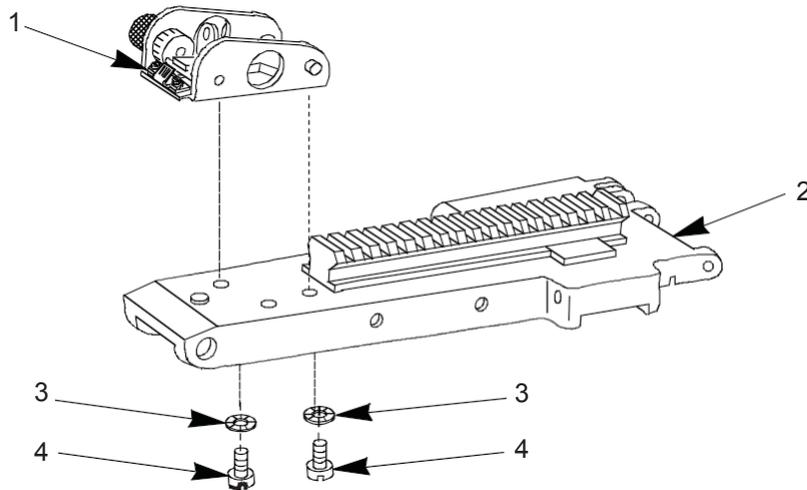
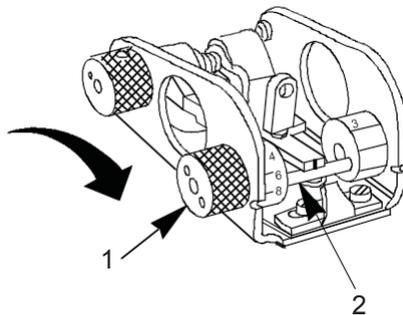

Figure 15. Rear Sight Assembly Cover Assembly.
Figure 16. Elevation Knob Assembly.
22. Visually inspect two retaining pins (Figure 15, Item 3) for burrs, and replace if damaged. Visually inspect cocking channel cover (Figure 15, Item 4) for bends or broken clip (Figure 15, Item 1) and replace if broken or damaged. Visually inspect retaining spring (Figure 15, Item 5) for bends or broken ends and replace if damaged.
23. Remove two screws (Figure 15, Item 4). Remove two lock washers (Figure 15, Item 3) and discard. Separate rear sight assembly (Figure 16, Item 1) from cover assembly (Figure 15, Item 2).
24. Visually inspect two screws (Figure 15, Item 4) for burred head and damaged threads. Replace if damaged.
25. Rotate elevation knob assembly (Figure 16, Item 1) so that cross bar of elevator assembly (Figure 16, Item 2) is rearward.